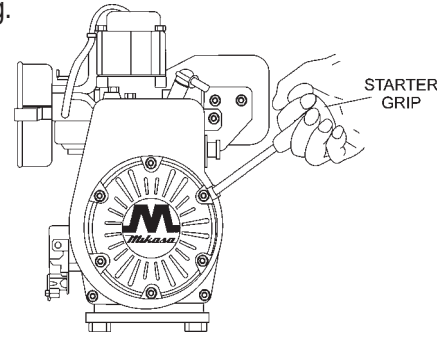

Figure 9. Recoil Starter
5. Grip the recoil starter (Figure 9) handle and pull it until you feel a slight resistance. Then pull sharply and quickly. Return the recoil starter handle to the starter case before releasing.